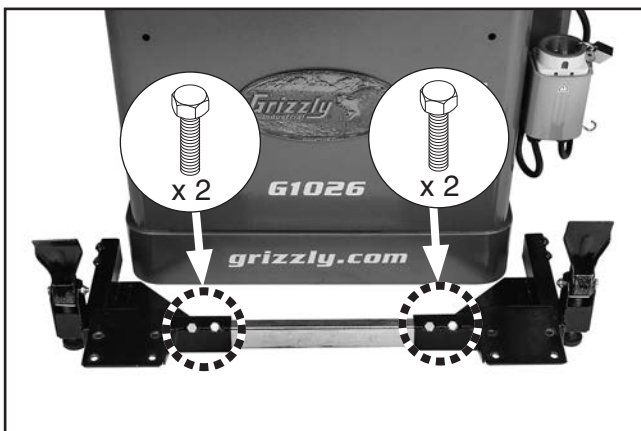

Figure 13. Rail secured to corner brackets.
- Secure each end of rail to front brackets with (2) M8-1.25 x 16 hex bolts, as shown in **Figure 13**.